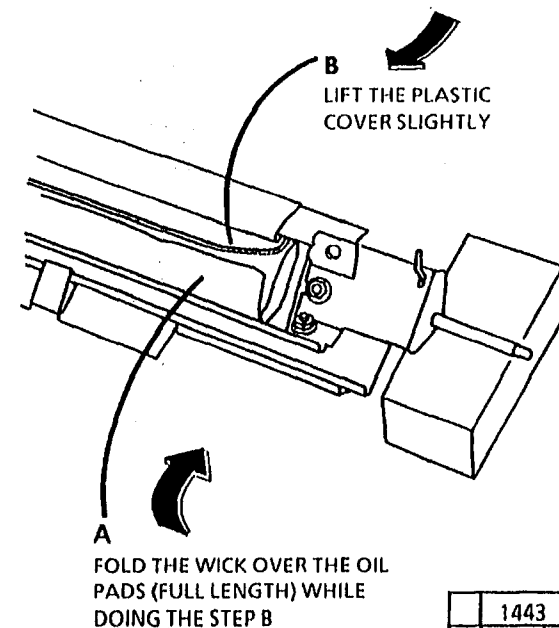

Figure 5. Insert the wick Edge under the Plastic Cover
3. (Figure 5): Insert the wick edge under the plastic cover.